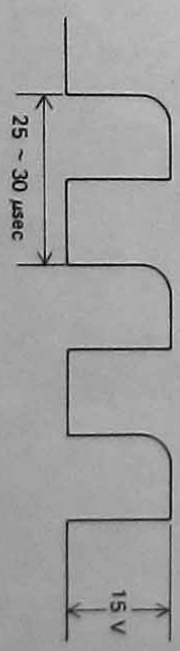

Fig. 7
- (4) OUTPUT AMP LEVEL adjustment. Set OCTAVE to 4'; leave others at normal. 1) Play C3 and adjust VR8 to obtain a sawtooth waveform amplitude of 3Vp-p (±5%). 2) Confirm that click noise occurring when power is turned off is less than volume of sound made by playing C3. DC click noise amplitude should be no greater than 6Vp-p.
- (5) BBD CLOCK adjustment. Set EFFECTS MODE to ENSEMBLE, SPEED/INTENSITY to 10. Leave others at normal. 1) Check TP-1 with oscilloscope. 2) Adjust VR1 to obtain maximum clock cycle of 30µsec. See fig. 7.